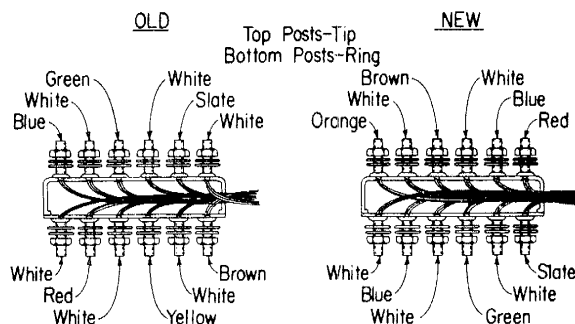

Fig. 1 — Color Codes of P-18A782 Terminal Block ←
2.01 The 49-type terminals are furnished with one P-18A782 Terminal Block (6 pair). See Fig. 1 and 2.